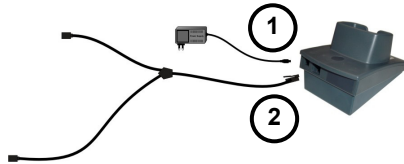

Figure 6 – Cradle Wedge Connections
1. Make all cradle system connections as shown in Figure 6 (not making connections to the PC);